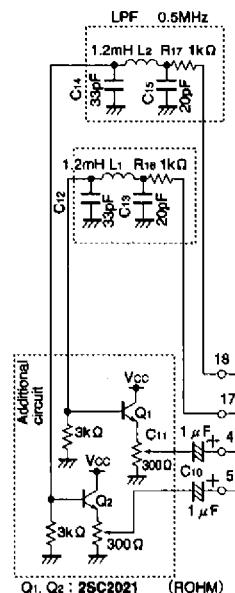

Fig. 11
- 4) Pin 4 ($B-Y_{IN}$) and pin 5 ($R-Y_{IN}$) have high impedance and are susceptible to the effects of noise and other external factors during pattern generation. For this reason, we recommend adding the circuit in Fig. 11 to lower the input impedance. Adding this circuit can also reduce carrier leakage.